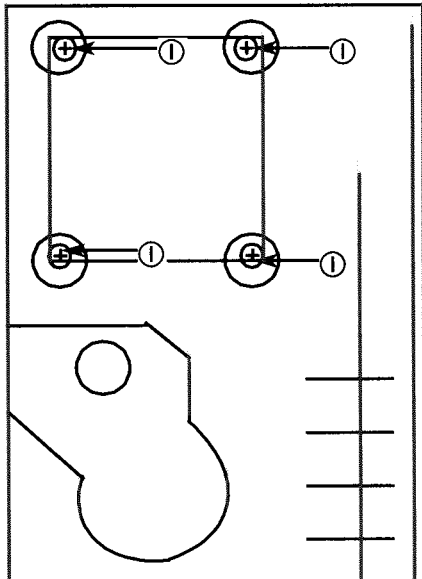

Fig9 Mech. botton side
2. Release the shaft to remove the pickup (Fig 9).